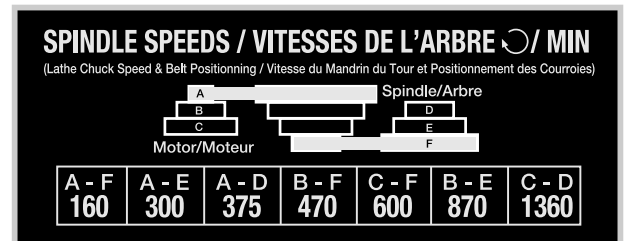

FIGURE 20
The speed of the Metal Lathe is controlled by the positions of the V-belts on the pulleys. The chart in Fig.20 shows the combinations of V-belt positions to achieve the range of six Metal Lathe speeds.
- To set the Metal Lathe spindle speed to 160 RPM, move the V-belts (A) Fig.22 to the A and F positions on the pulleys as shown in chart Fig.20.